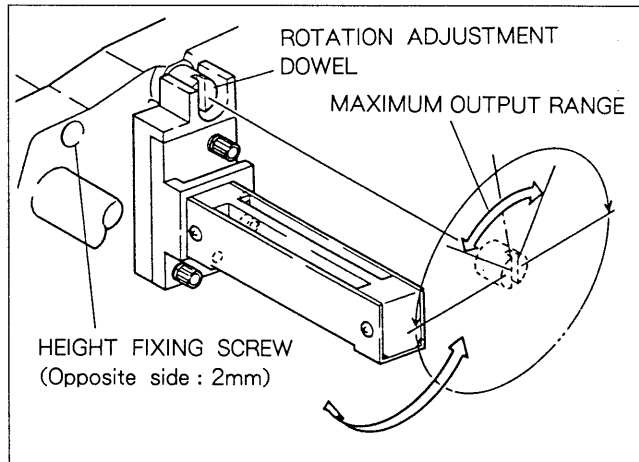

Fig. 9-6-5. Audio PB Head Rotation Adjustment
(5) Turn the PB head rotation adjustment dowel shown in Fig. 9-6-5 right and left so that check the maximum range of CH-1 (DA. CH-1) output.